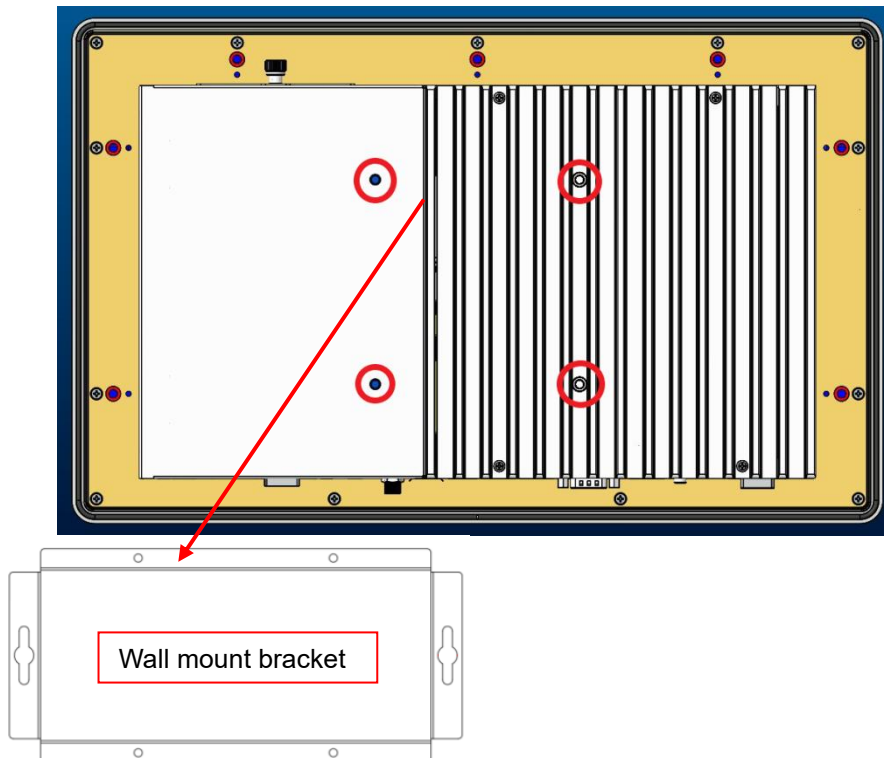

Figure 2-7: Wall mount screwing holes on the back chassis
- Step 1** On the back chassis of the panel PC, locate the screwing holes for assembling the wall mount bracket, as shown in Figure 2-7.